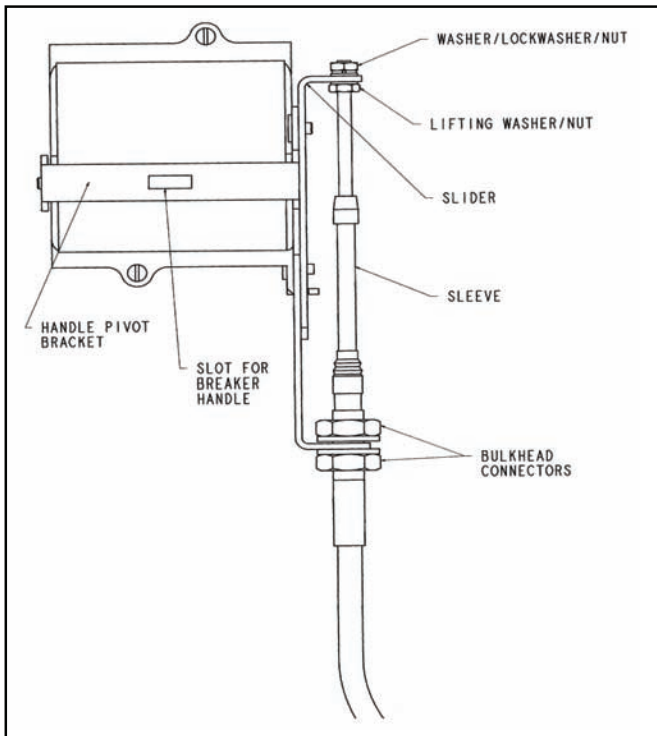

Fig. 1-3 E-Frame Actuator Mechanism.
The Flex Shaft handle mechanism provides a means of externally operating the circuit breaker and can be applied to enclosures of varying heights and depths. The handle can be used with NEMA 1, 3R, 3R,12, 4, and 4X enclosure applications, depending on the accessory components selected. An operating handle, flexible shaft, and mechanism are required for standard application. Four lengths of shafts are available for use with the wide range of depths of various enclosures (3' through 6'). When selecting the length of the Flexible Shaft, ensure Minimum Bending Radius of 4 inches is maintained to operate properly. The standard method of shipment includes the mechanism preset at the factory. If minor field adjustments are required, see Fig. 1-3. For this publication, the term circuit breaker shall also include the molded case switch.
In the event a customer must disassemble the preassembled Flex Shaft handle mechanism, the procedure listed below must be followed before continuing with the "Installation" instructions. (See Fig. 1-3).
- H. Check operation of mechanism for ON, OFF, and reset. Check the reset position of the actuator mechanism, that the lifting nut and sleeve of shaft do not come in contact with each other (see Fig. 1-3). If they do, move bulkhead connectors accordingly. If mechanism functions incorrectly, repeat procedure or go to Adjustment Checklist.
Loosen the lifting washer/nut while tightening the washer/lockwasher/nut, two or three turns should be sufficient (see Fig. 1-3).
Note: Check the reset position of the actuator mechanism, that the lifting nut and sleeve of shaft do not come into contact with each other (Fig. 1-3) If they do, move bulkhead connectors accordingly.
Loosen the washer/lockwasher/nut on the end of the shaft while tightening the lifting washer/nut until breaker turns on with positive action. Tighten both nuts and recheck for ON, OFF, and Reset positions (Fig. 1-3).
Note: Be certain after adjustment to have a minimum of 1 thread past the washer/lockwasher/nut assembly (Fig. 1-3).